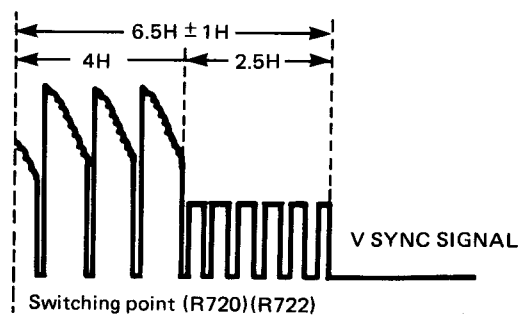

Figure 90.
3. Adjust R720 so that the output of CH-1 rises at  $6.5 \pm 1H$  ahead of V-sync signal output of CH-2. See Fig. 90.
3. Adjust R722 so that the output of CH-1 rises at  $6.5H \pm 1H$  ahead of V-sync signal output of CH-2. See Fig. 90.